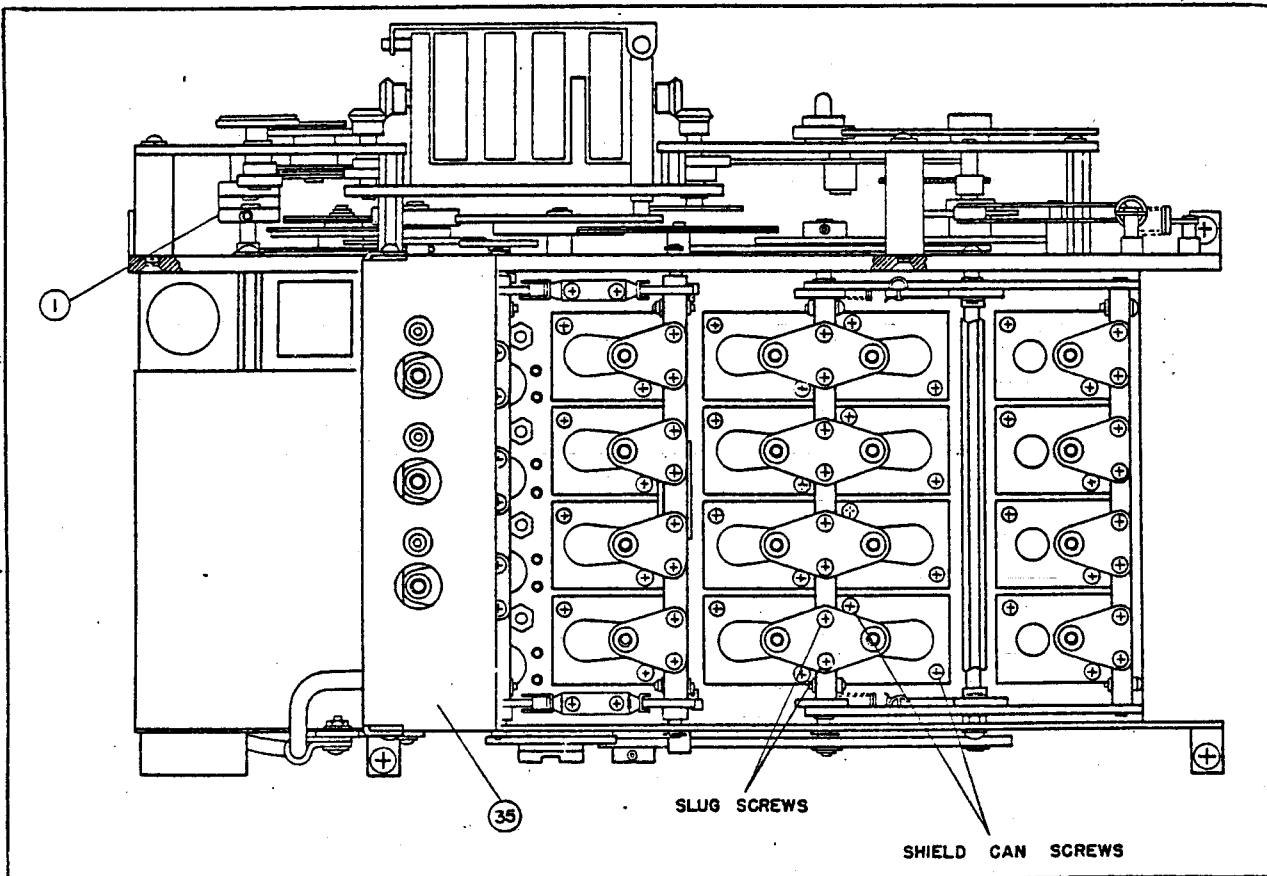

Figure 3-3. R-F and I-F Tuner Assembly, Top View
- b. Remove two Phillips head screws securing the slug of the tuned circuit being removed. If a low-band tuned circuit (Z401 through Z403) is to be removed, all slugs must be removed, requiring the removal of cover (item 35, figure 3-3) and six Phillips head screws.